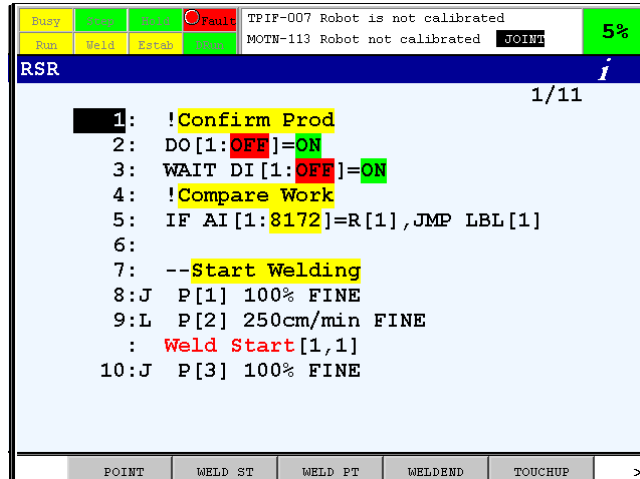

Fig. 5.4.4(a) Colored TP Edit Screen
It is possible to display the following instructions with color as Fig. 5.4.4 (a) on software version 7DC3 or later. You can switch Colored/Non colored by selecting this item.
- Application instruction: Displays Arc welding, Spot welding and so on instructions in RED. (line 9 on Fig. 5.4.4 (a))
- I/O instruction: Displays ON in Green, OFF in RED. (line 2, line 3 on Fig. 5.4.4 (a))
- Remark/Multi-Ing Remark instruction: Displays Remarks in Yellow. (line 1, line 4 , line 7 on Fig. 5.4.4(a))
It is possible to display I/O instructions with I/O's status as Fig. 5.4.4(a). You can switch Display/Non Display by selecting this item.
- Analog I/O, Group I/O: Displays the value of I/O in Yellow. (line 5 on Fig. 5.4.4 (a))
- The others: Displays ON (in Green)/OFF (in Red). (line 2, line 3 on Fig. 5.4.4 (a))